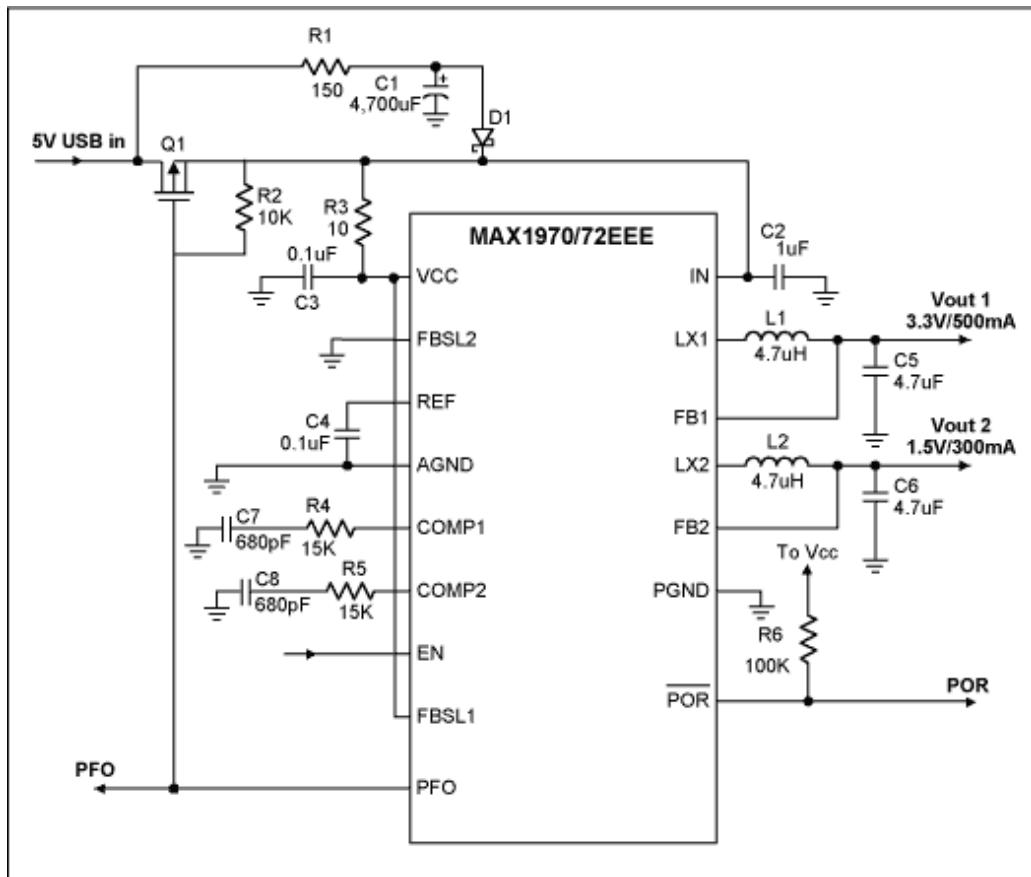
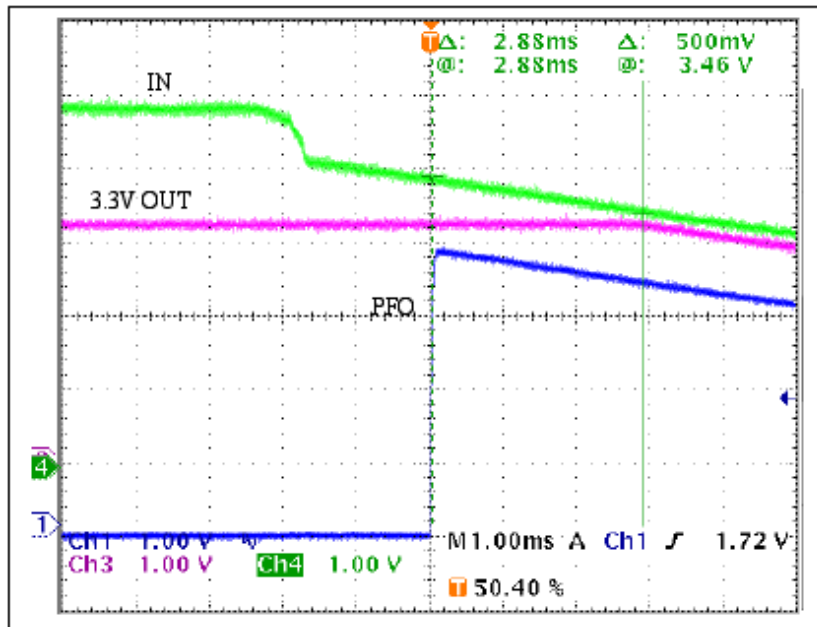

Figure 1. Typical application circuit for 5V USB dying gasp application
Figure 2. Input power fail (PFO) warning time
For dying gasp applications, there must be a local energy storage capacitor that will power the device and prolong its operation for orderly shut down when USB power is lost. The loss of USB power is sensed and a warning signal is issued. To meet the dying gasp warning time, the energy storage capacitor value needed is much larger than the 10 μ F allowed. The circuit in Figure 1 is designed to solve this problem.
Under normal operation, input current to the MAX1970 flows through Q1, and C1 is charged to ~5V USB in. When the 5V USB power fails or turns off, the energy stored in C1 provides power via D2. As C1 discharges to the MAX1970 input power fail (PFO) threshold of 3.94V, PFO goes high to turn off Q1, and issues an input power warning while both outputs are still in regulation. C1 continues to discharge and the higher output voltage (3.3V) drops out. The power fail warning time is measured from the time PFO goes high to the time when the 3.3V output drops out of regulation. Figure 2 shows the typical PFO warning time of 2.88mS for the circuit in Figure 1, when 3.3V and 1.5V are loaded at 500mA and 300mA respectively.
The top trace in Figure 2 is the voltage at the MAX1970 IN pin. As the 5V USB input is turned off and the storage capacitor C1 starts to supply the energy to the DC/DC converter, the voltage at the IN pin drops, due to forward voltage of D1. As C1 continues to discharge to the PFO threshold, PFO goes high and turns off Q1. C1 further discharges until the 3.3V output starts to droop, when IN is about 3.5V.
For the circuit in Figure 1, when 3.3V and 1.5V are loaded at 500mA and 300mA respectively, the input power calculated by equation (1) is 2.33Watts at $\eta = 90\%$. The average current supplied from C1 as calculated by equation (2) is 628mA. Finally, the warning time calculated by equation (3) is 3.28mS, which agrees with the oscilloscope plot of Figure 2 to within the 20% tolerance of C1.